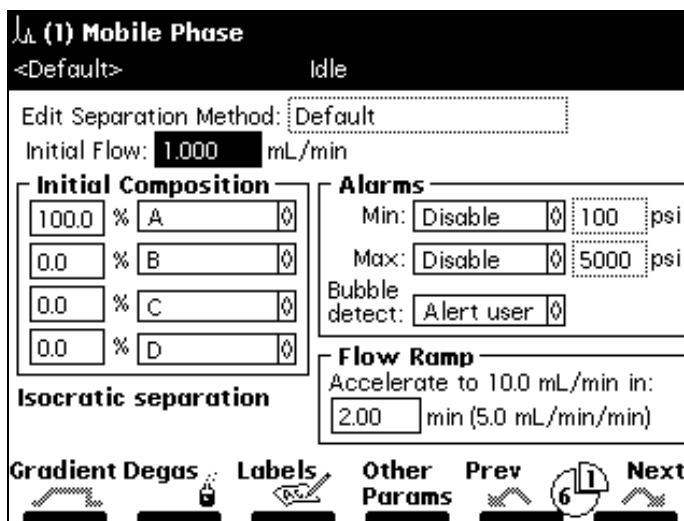

Figure 5-4 Mobile Phase Screen
5. Press **Enter**. The Mobile Phase screen appears (Figure 5-4). The Mobile Phase screen is one of six parameter screens.
2. Press the **More** screen key until the View screen key is displayed, then press the **View** screen key. The first parameter screen (Mobile Phase screen, Figure 5-4) for the selected method appears.
The Mobile Phase screen (Figure 5-4) appears when you create a new separation method (see Section 5.1.1. Creating Separation Methods), view a locked separation method using the View screen key, or edit a separation method.
1. Press the **Next** or **Prev** screen key (if necessary) to display the Mobile Phase screen (Figure 5-4).